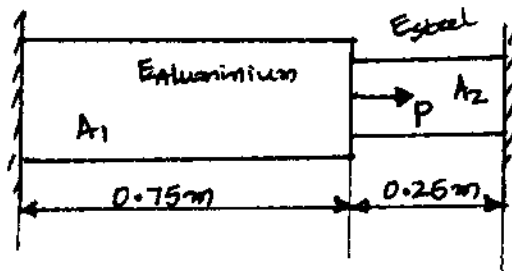

Fig. Q3(a)
3. a. Determine the displacement, strain and stress in the bar subjected to concentrated load as shown in Fig. Q3(a). Take $P = 12 \text{ kN}$, $E_{\text{steel}} = 210 \text{ GPa}$; $E_{\text{Aluminium}} = 70 \text{ GPa}$; $A_1 = 0.02 \text{ m}^2$; $A_2 = 0.01 \text{ m}^2$. (15 Marks)